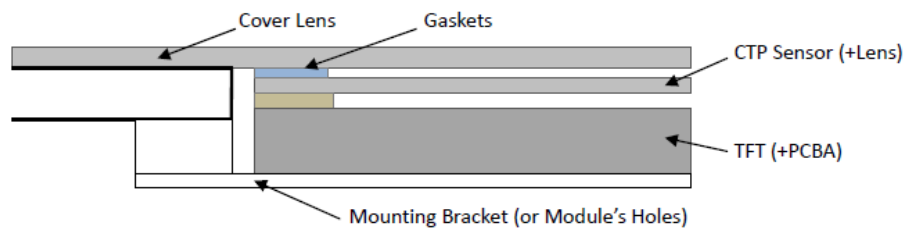

Figure 3
7.3 Additional Cover Lens Mounting (Figure 3)
7.3 覆加盖板 (附图3)